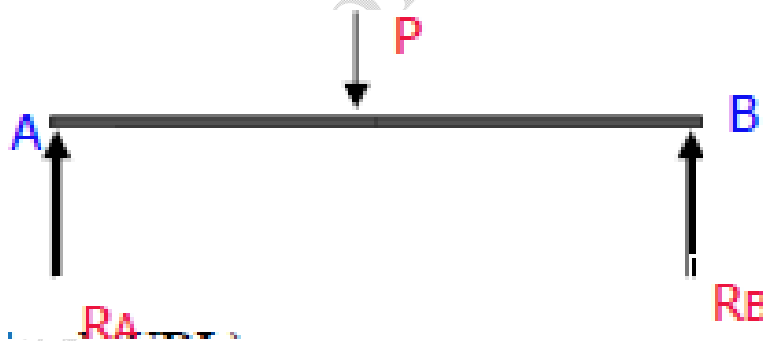

Fig 3.10 Point Load
1. **Point load or Concentrated load:** If a load acts over a very small length of the beam, it is assumed to act at the midpoint of the loaded length and such a loading is termed as Point load or Concentrated load as shown in Fig 3.10.